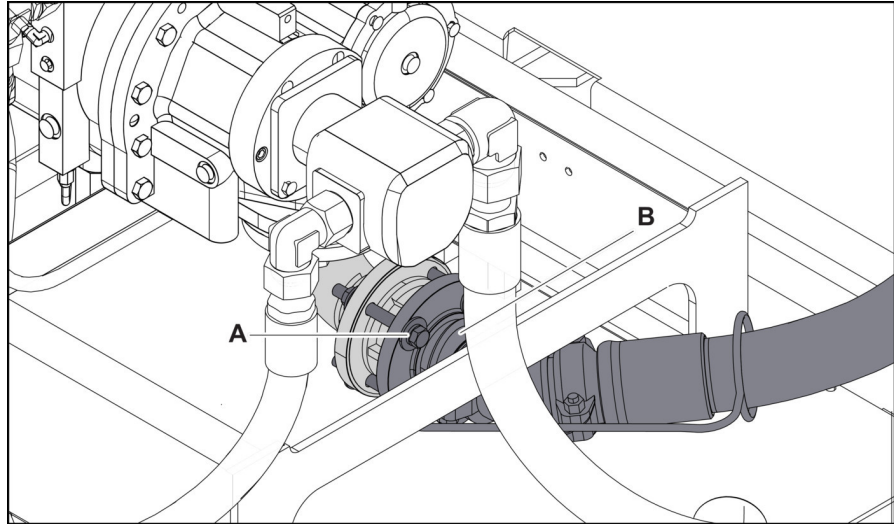

Figure 5
10. Put a container near the compressor discharge pipe. Loosen all of the discharge check valve cap screws and let the fluid drain into the container (Figures 5 and 6).